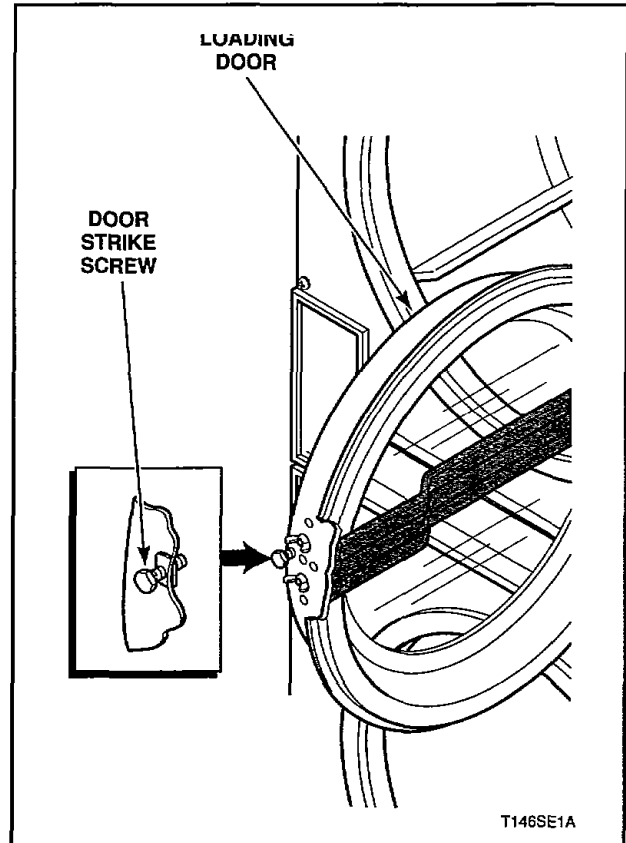

Figure 30
39. CYLINDER DOOR STRIKE (Figure 30)